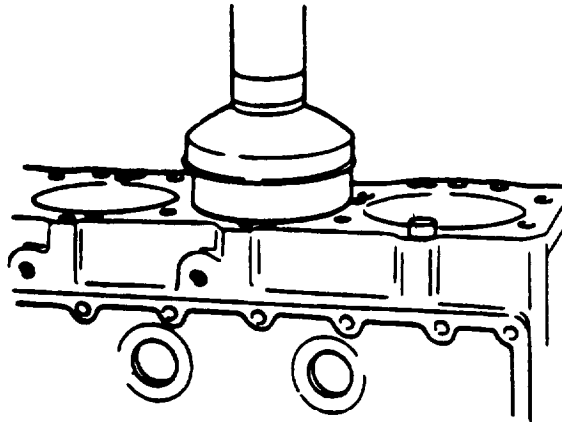

FIGURE 3-116. Pressing Cylinder Liner
- (4) Set cylinder liner installer (320903) on top of cylinder liner, refer to FIGURE 3-116.
(5) Position cylinder block so installer center is directly beneath arbor press shaft center.